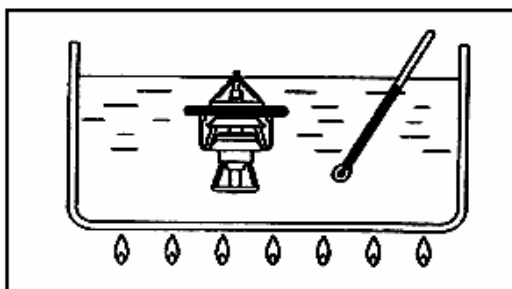

Fig 7-5
- (1)Immerse the thermostat in water, and heat the water while stirring. Check the thermostat valve opening temperature. (See Fig 7-5)。